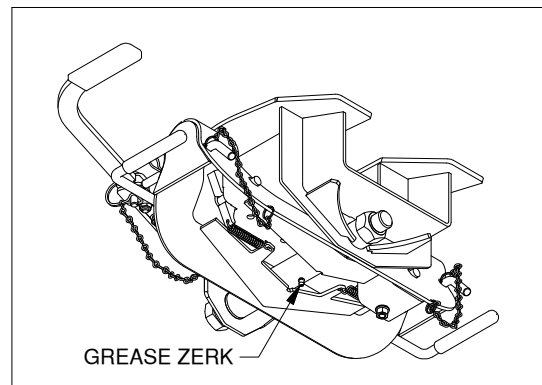

FIGURE G1: View under coupler.
- Grease the saddle through the grease zerk approximately every six months with multi-purpose grease. This allows the coupler to pivot freely, see figure G1.